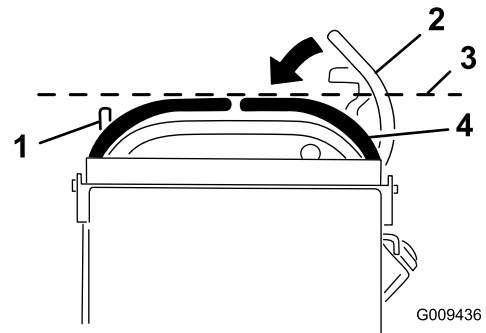

Figure 69
3. Push the right motion-control lever down out of the neutral-locked position (Figure 69).
4. Check if the right motion-control lever aligns horizontally with the left motion-control lever (Figure 69).